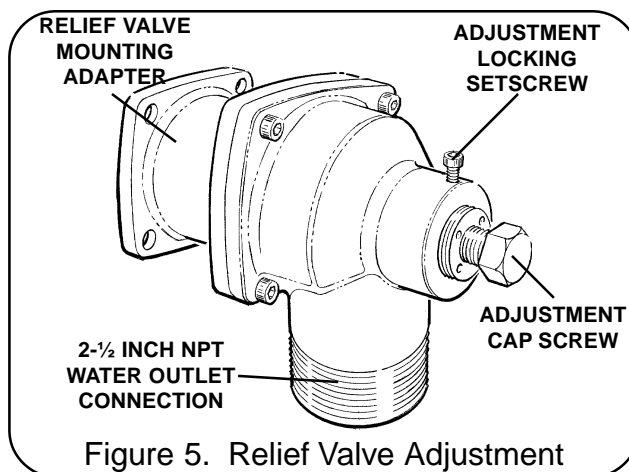

Figure 5. Relief Valve Adjustment
a. Remove the four 7/16-14 UNC X 1-1/4 inch long hex head cap screws that secure the relief valve adapter and relief valve to the mounting pad on the Hale MIV body. (See figure 5)
The relief valve is factory set to open at 125 PSI (9 BAR). The relief valve can be adjusted to open from 75 to 250 PSI (5 to 17 BAR). Test and set relief valve as necessary using the following procedures and figure 5: